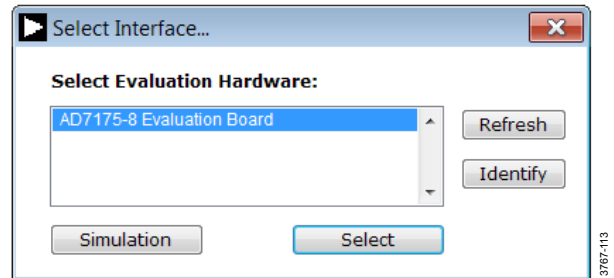
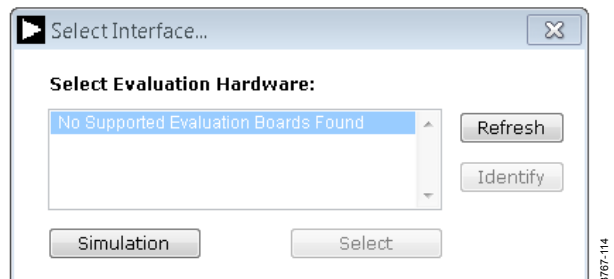
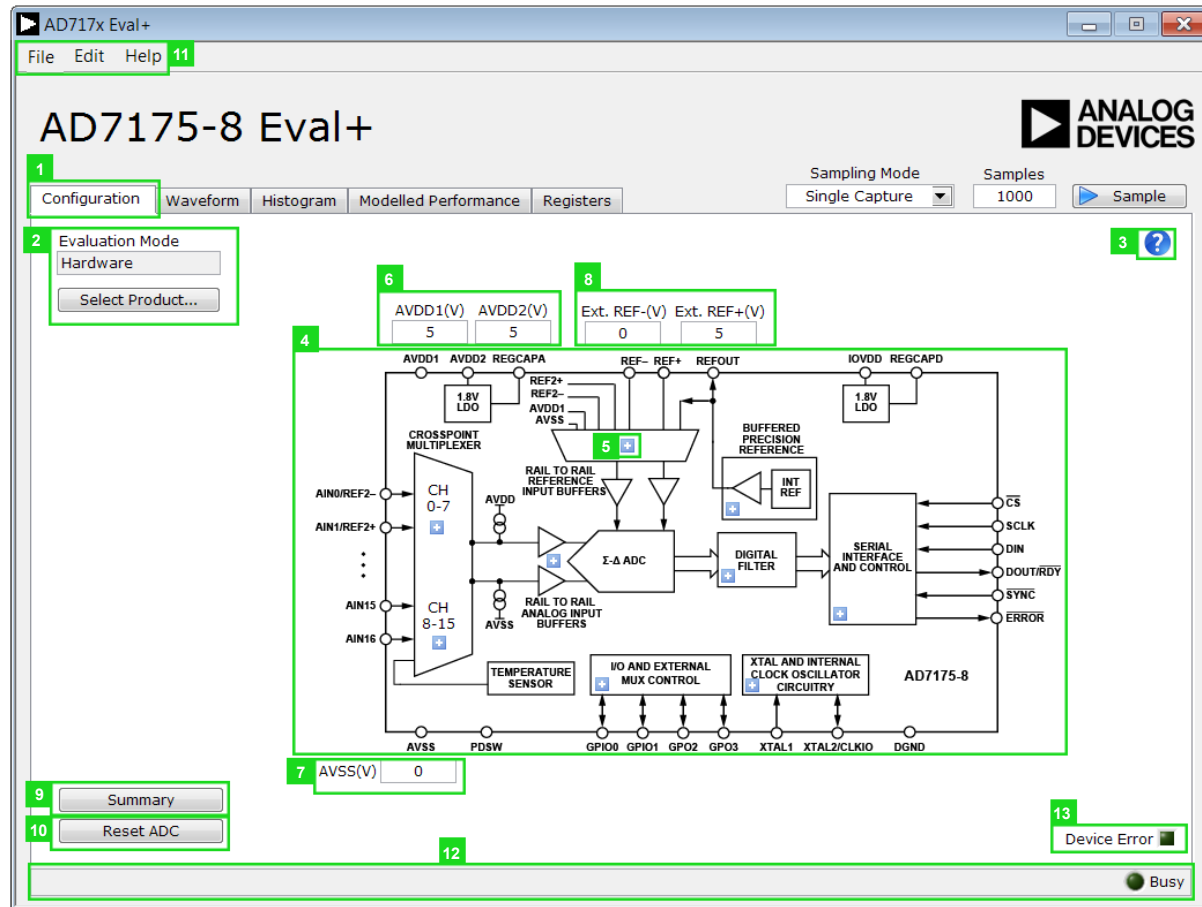
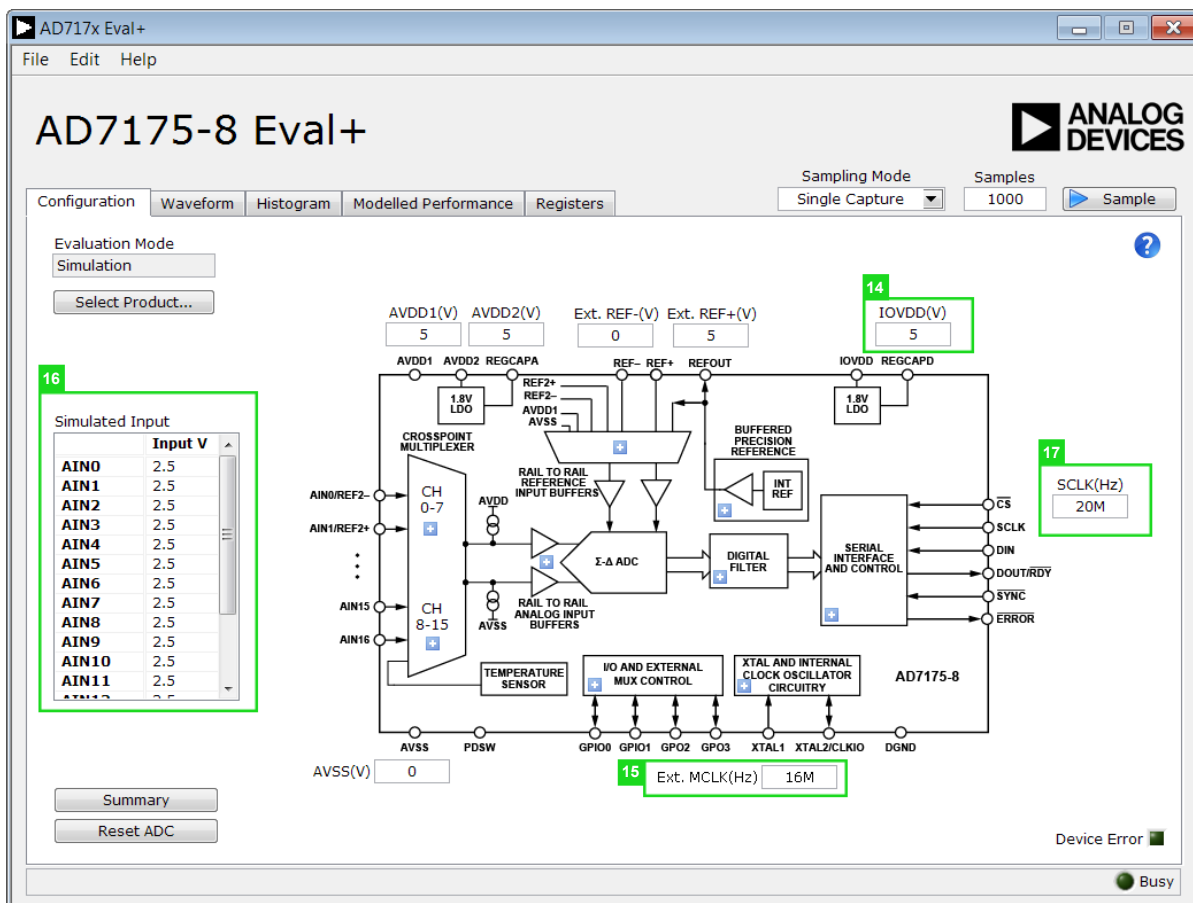

Figure 13. AD7175-8 Evaluation Board Selection
Figure 14. Evaluation Board Selection, No Board Connected
Figure 16. Configuration Tab of the AD7175-8 Eval+ Software in Hardware Mode
Figure 17. Configuration Tab of the AD7175-8 Eval+ Software in Simulation Mode
2. The dialog box in Figure 13 appears, select **AD7175 Evaluation Board**. The main window of the software box displays as shown in Figure 16.
3. If the **EVAL-AD7175-8SDZ** evaluation system is not connected to the USB port via the **SDP-B**, when the software is launched the **Select Interface** dialog box appears (see Figure 14). Connect the evaluation board to the USB port of the PC, wait a few seconds, click **Refresh** and the option shown in Figure 13 appears.
Figure 16 shows the Configuration tab when **Hardware Mode** is selected and Figure 17 shows the Configuration tab when **Simulation** mode is selected. The controls highlighted in Figure 17 are only available in **Simulation** mode.
The Evaluation Mode indicator displays the current evaluation mode. To switch between modes, click the **Select Product** button and the dialog box shown in Figure 13 appears.